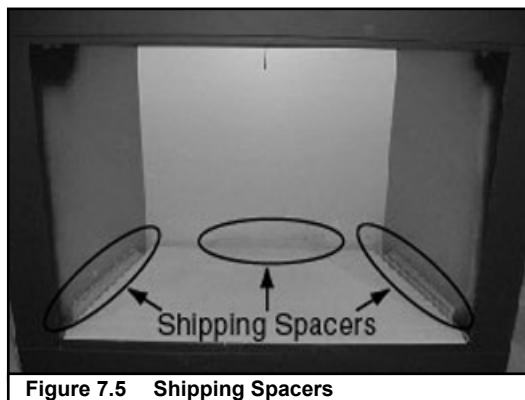
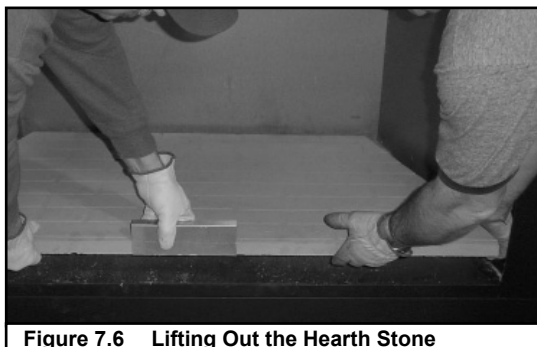

Figure 7.5 Shipping Spacers
Figure 7.6 Lifting Out the Hearth Stone
- Remove hearth stone by removing three corrugated shipping spacers (Figure 7.5). Lift hearth stone out of fireplace. See Figure 7.6.